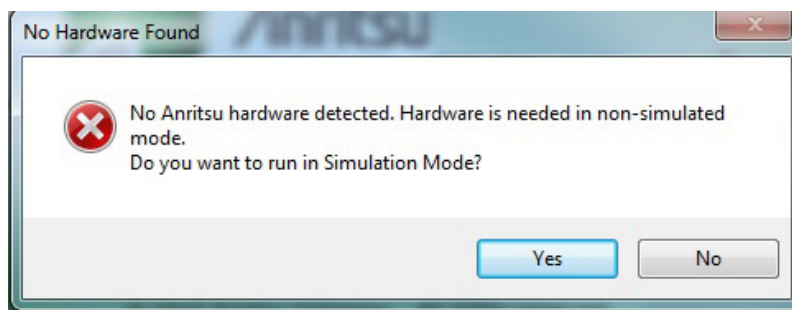

Figure 3-2. No Hardware Prompt
1. Launching the ShockLine software without plugging in the VNAs Micro USB cable to the controller first will result in the software asking the user if they want to run in simulation mode. See Figure 3-2. If you want to run in Simulation mode, go to Section 3-3 “Simulation Mode” on page 3-4.